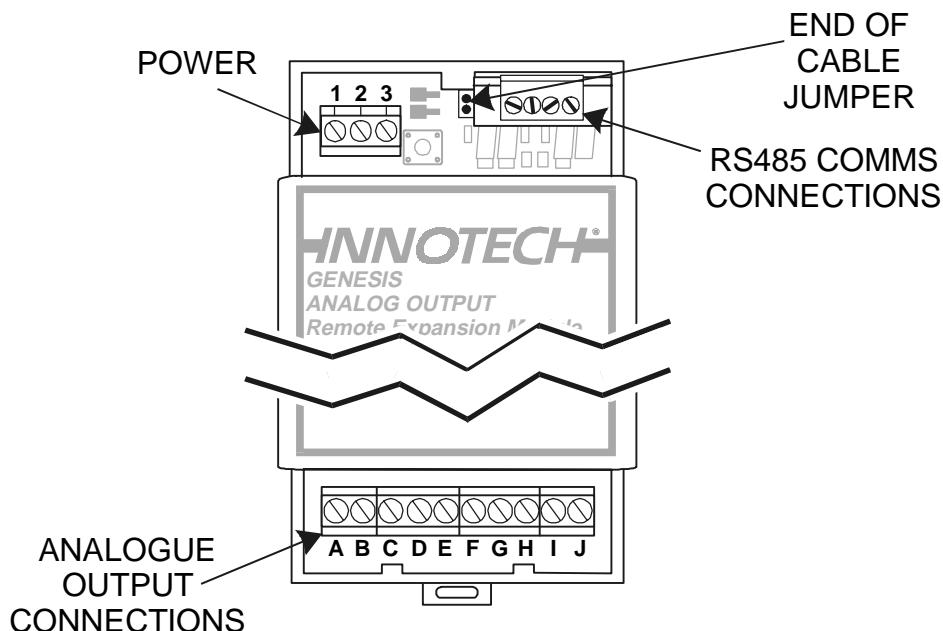

Figure 3-13. AO REM Analogue Output Module.
**3-4.2.5. AO REM Analogue Output Module.** The AO REM (Figure 3-13) provides up to five analogue outputs. Analogue output terminals are located at the bottom of the module; output signal connections are listed in Table 3-13. Analogue output cables should be run using twisted pair shielded cable. The screens should be connected to the signal's negative output terminal (B, D, F, H or J) in each case.